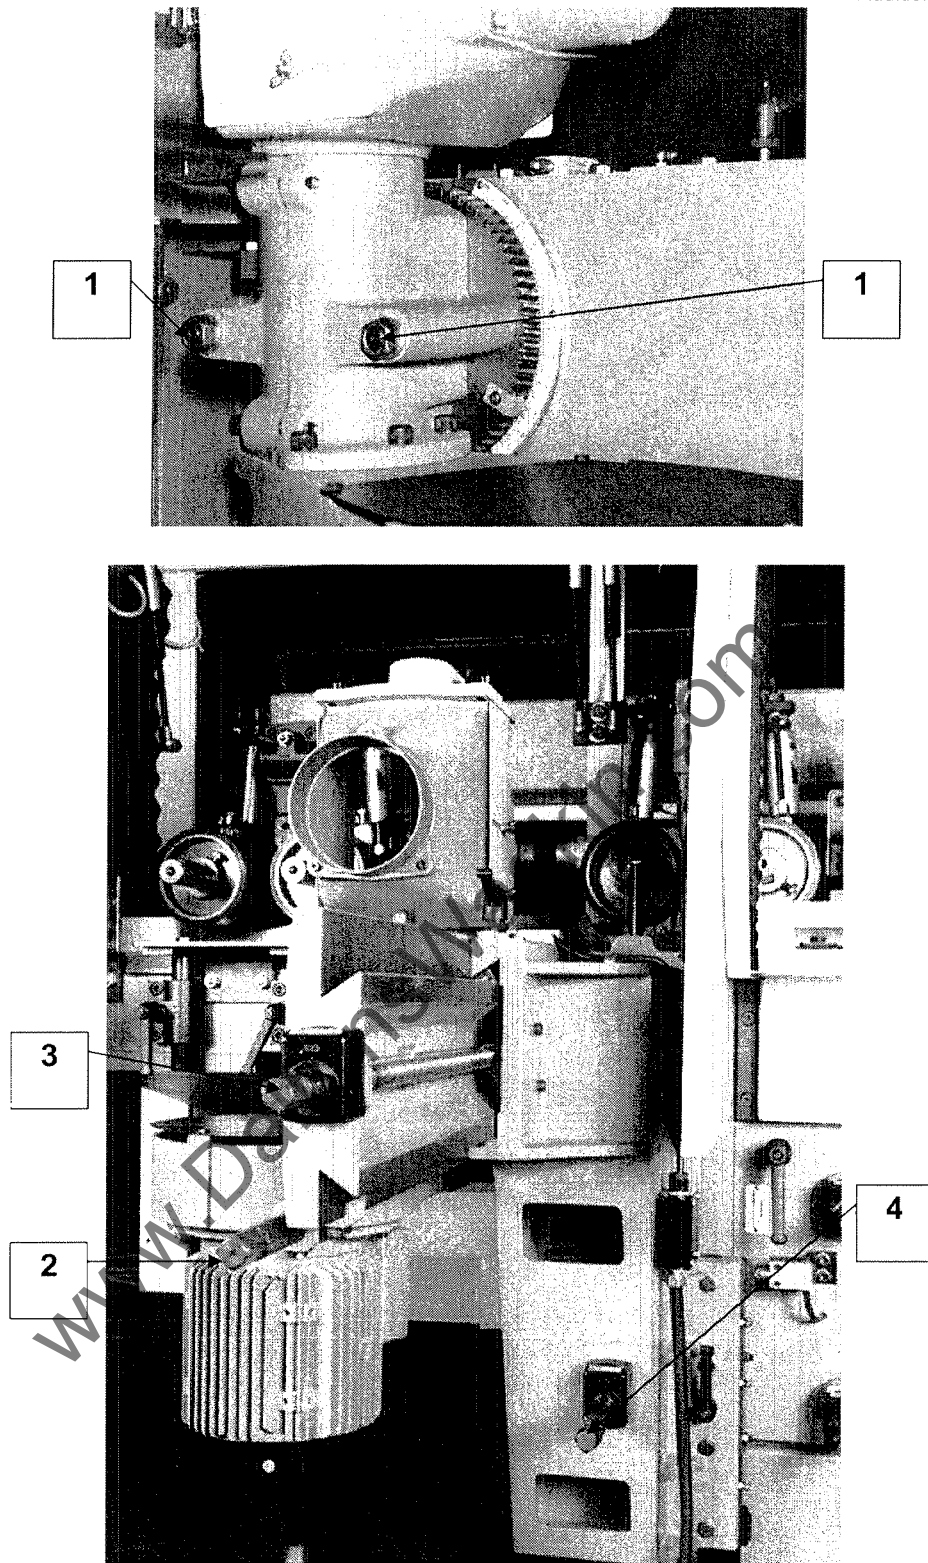

Figure 8.1.7
- 5 Release the two locking bolts (1) (Figure 8.1.7) and cant the spindle to the horizontal position using a crank handle on shaft (2).
- 6 Lock bolts (1).
- 7 Adjust the vertical and horizontal position of the cutter block in relation to the fence side and the bedplate respectively by adjusting shafts (3) and (4) with the crank handle.
- 2 Release the two locking bolts (1) (Figure 8.1.7) and cant the spindle to the vertical position using a crank handle on shaft (2).
- 3 Lock bolts (1)
- 6 Adjust the vertical and horizontal position of the cutter block in relation to the timber size by adjusting shafts (3) and (4) with the crank handle.
- 3 Release the two locking bolts (1) (Figure 8.1.7) and cant the spindle to the vertical position using a crank handle on shaft (2).
- 4 Lock bolts (1)
- 6 Adjust the vertical and horizontal position of the cutter block in relation to the fence side by adjusting shafts (3) and (4) with the crank handle